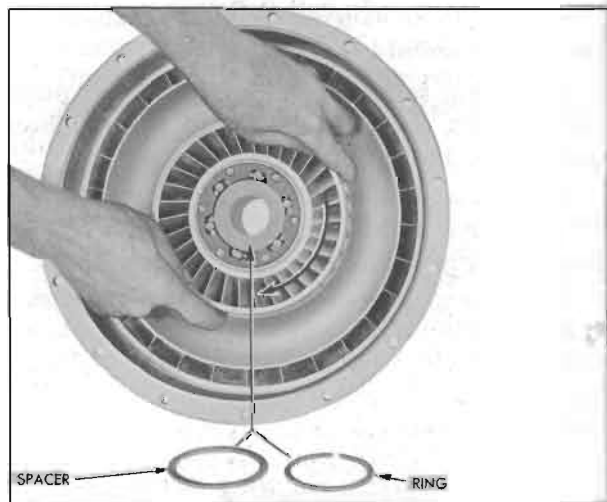

Figure 4-94—Removal of Secondary Pump
1. Remove the secondary pump retaining ring and free wheel roller spacer, then rotate secondary pump in clockwise direction while withdrawing it from primary pump. See figure 4-94.